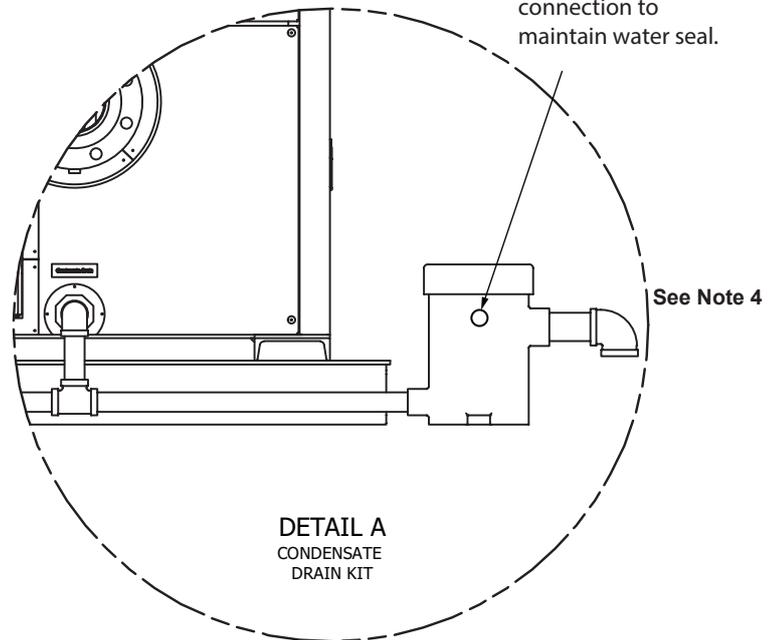

FIGURE 14 - CONDENSATE DRAIN PIPING FOR MULTIPLE ENDURA BOILERS
The multiple boiler condensate drain trap is Fulton Part Number 4-57-000440. The maximum number of units to attach per condensate drain trap is 12,000,000 BTU total. (See Figures 14 and 16).
5. All piping (Figure 14) must be CPVC, galvanized, or stainless steel, and be free of leaks. Copper, carbon steel/iron pipe or PVC are not acceptable.